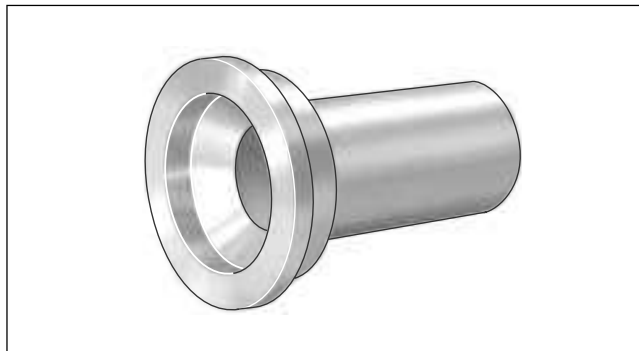

Figure 3-47. Sprocket Shaft Oil Seal Installer
- d. Slide SPROCKET SHAFT OIL SEAL INSTALLER (HD-39361A) over pilot until it contacts oil seal. See Figure 3-47.